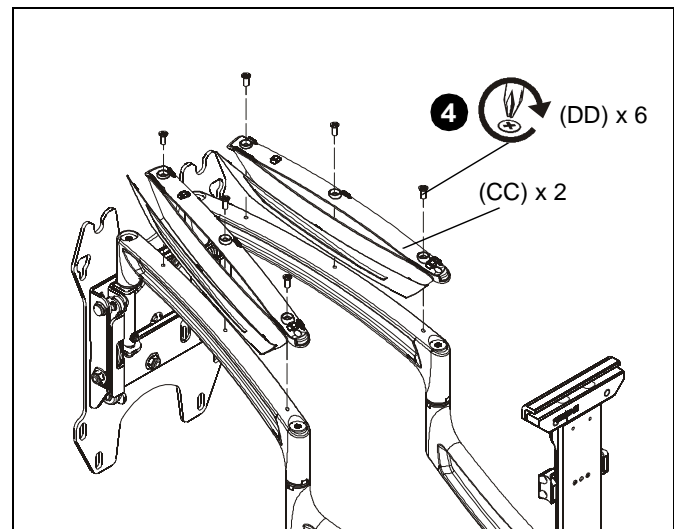

Figure 13
4. Use six #10-24 x 1/2" Phillips flathead screws (DD) to attach cable management covers (CC) to the upper portion of the swing arm. (See Figure 13)